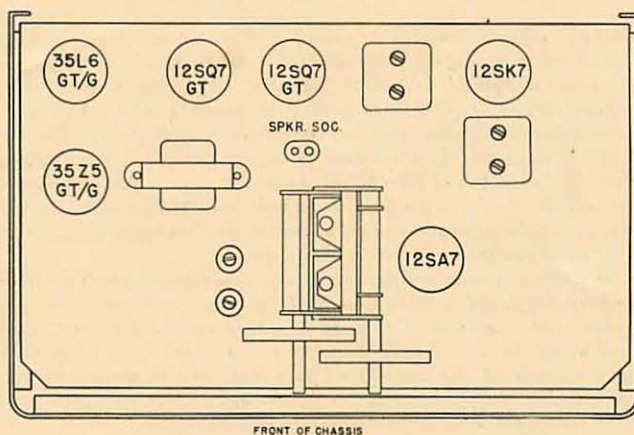

Figure 6. Radio Receiver Model S-38, view showing tube locations.
**REPLACING THE TUBES AND DIAL LAMP.**—It will be necessary to remove the fiber back cover of the receiver in order to replace tubes and dial lamp. This can be accomplished by removing the two rear screws on the bottom plate and then removing the four screws which hold the cover to the cabinet. When replacing tubes, check the tube type carefully and replace with the correct type. Refer to the top view of the receiver chassis, Fig. 6, to determine the location of each tube. The receiver employs one dial lamp with bayonet type socket to illuminate the two dial scales. Replace this lamp with smaller type, 6.8 volt, 150 ma. "brown bead" G.E. #47 or equivalent. The color code referred to is the color of the glass bead above the glass stem inside the envelope of the lamp.